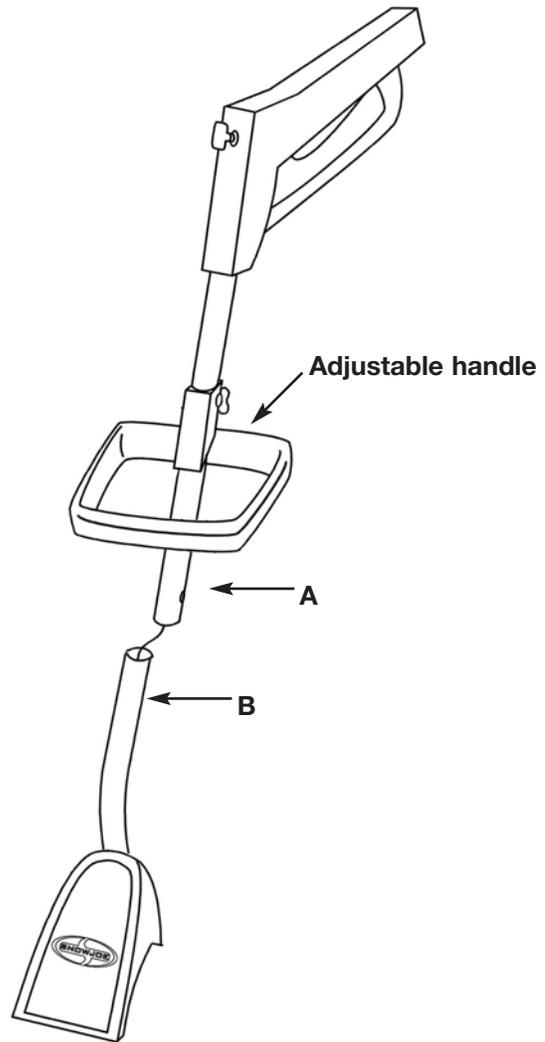

Figure 2
2. Slide the lower tube (B) into the upper tube (A) (Figure 2).